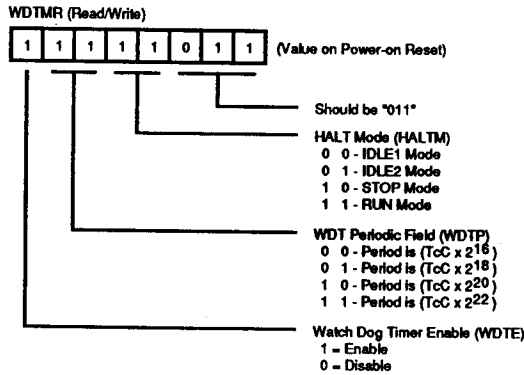

Figure 22. Watch Dog Timer Master Register
**Watch Dog Timer Master Register (WDTMR; I/O address F0h).** This register controls the activities of the Watch Dog Timer and selects power-down mode of operation (Figure 22).